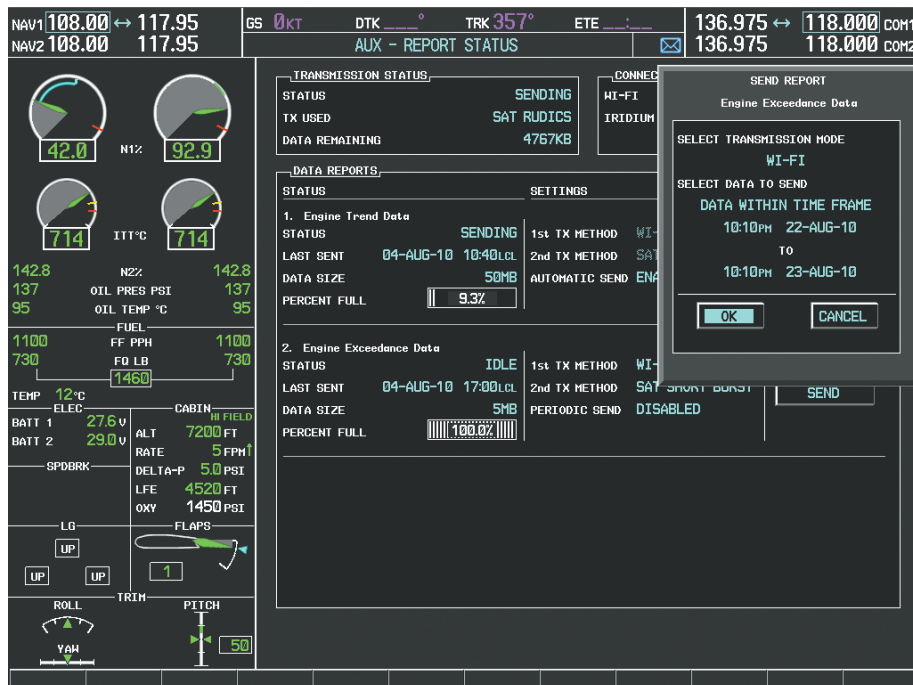

Figure 8-119 Select OK to Send Data
- 10) When the last field is addressed, 'OK' will be highlighted as seen in Figure 8-119. Press the **ENT** Key to send the selected data.